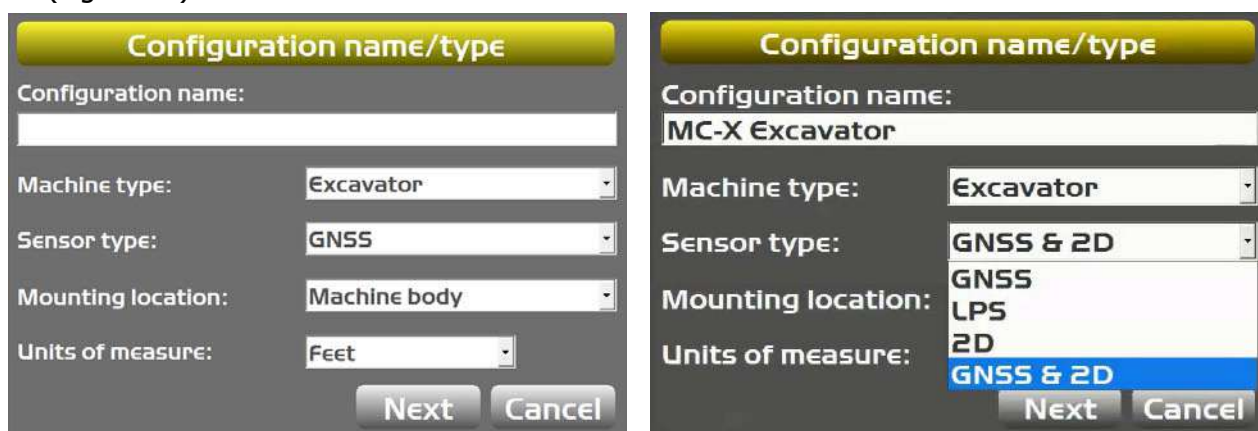

Figure 49: Configuration name/type
3. On the **Configuration name/type** screen, enter or select the appropriate data as needed (Figure 49).